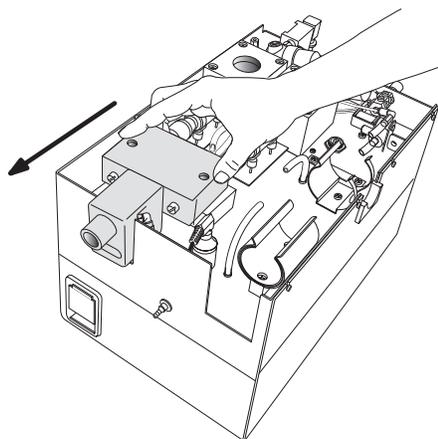

Figure 4-23
- 2 Slide the mixing chamber forward until the flow sensors disengage (Figure 4-23). Lift the mixing chamber/manifold assembly away from the flow sensors.